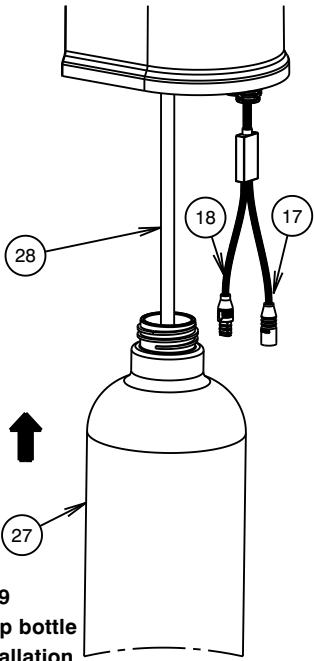

Fig.9 Soap bottle Installation
- iii) Mount the control unit (12) onto the screws (24).
5) Soap Bottle Installation (See Fig. 9)